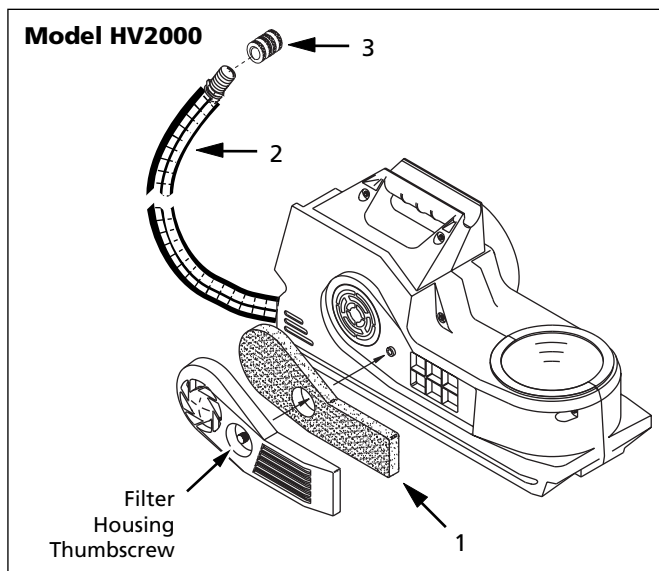

Figure 3
1. Remove the filter grille thumbscrew with a screw driver to access the filter (See Figure 3).